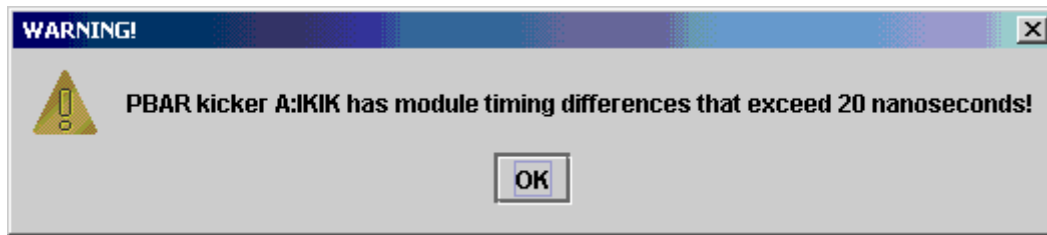

Figure 33: If one or more kickers need a timing change, then this popup window will appear. Click OK to view the results.
13. If any tuning changes are required, you will get a popup window, as shown in Figure 33, that states that A:IKIK has timing module differences that exceed 20 nanoseconds. If all of the kicker times are within 20 nanoseconds then skip ahead to Step 17 of this procedure.